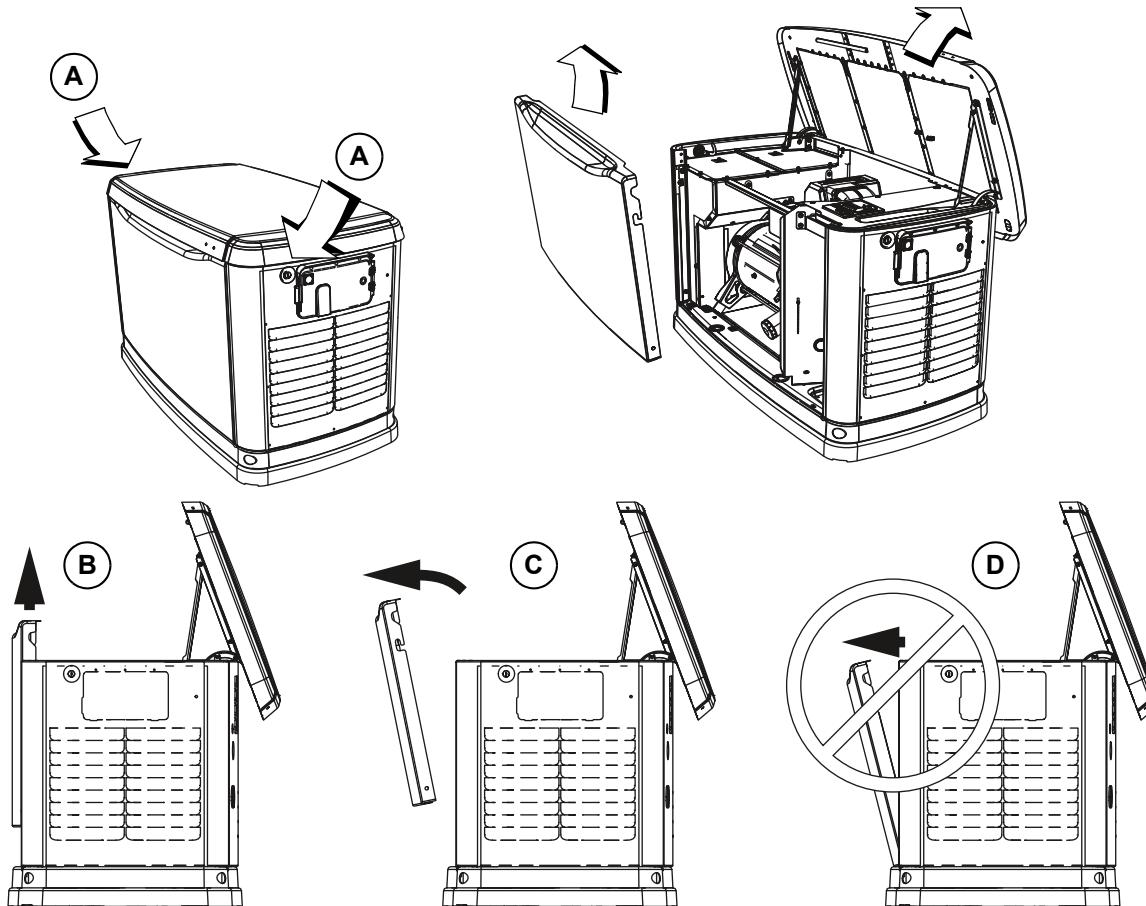

Figure 2-4. Side Lock Location and Front Panel Removal
7. There are two locks securing the lid, one on each side (A in **Figure 2-4**). To properly open the lid, press down, on the lid, above the side lock and unlock the latch.
NOTE: Always lift the front access panel up before pulling away from enclosure (B and C in **Figure 2-4**). Do not pull the panel away from the enclosure before lifting up (D in **Figure 2-4**)